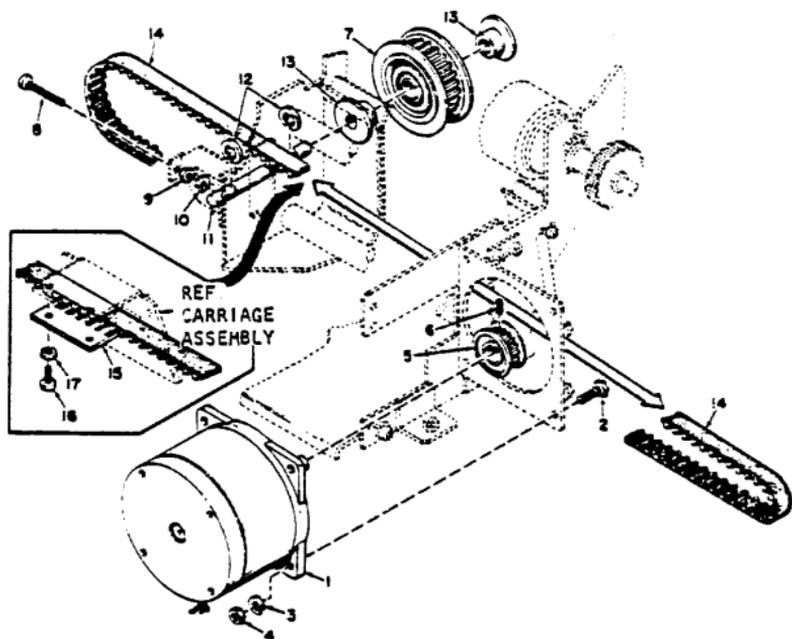

Figure 10 STEPPER MOTOR ASSEMBLY, CARRIAGE DRIVE
- Loosen tension on main drive belt (#14 in Figure 10) by turning two adjusting screws (8) counter-clockwise.
- Remove the stepper drive motor (1) by removing four screws (2) lockwashers (3) and nuts (4).
- Separate main drive belt (14) from the carriage assembly by removing the main drive belt holder (15) and two screws (16) and lockwashers (17).
- Remove main drive belt and idler pulley (7) by removing two snap rings (12), adjusting screws (8) and slide idler pulley shaft (11) through idler pulley.